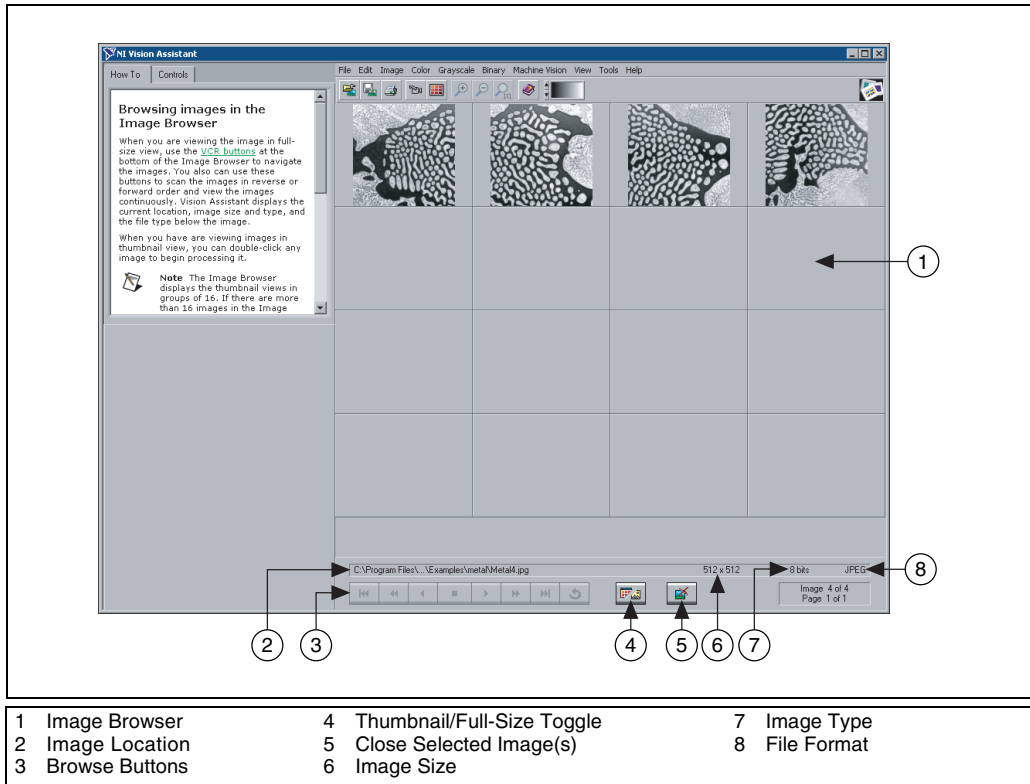

Figure 2-1. Image Browser
- **Image Browser**—Contains all of the images currently loaded in Vision Assistant. You can select an image to process by double-clicking it in the Image Browser. Refer to Figure 2-1, Image Browser, to view images loaded into the Image Browser.
Vision Assistant loads the image files into the Image Browser, as shown in Figure 2-1. The Image Browser provides information about the selected image, such as image size, location, and type.
You can view new images in either thumbnail view, as shown in Figure 2-1, or in full-size view, which shows a single full-size view of the selected image.